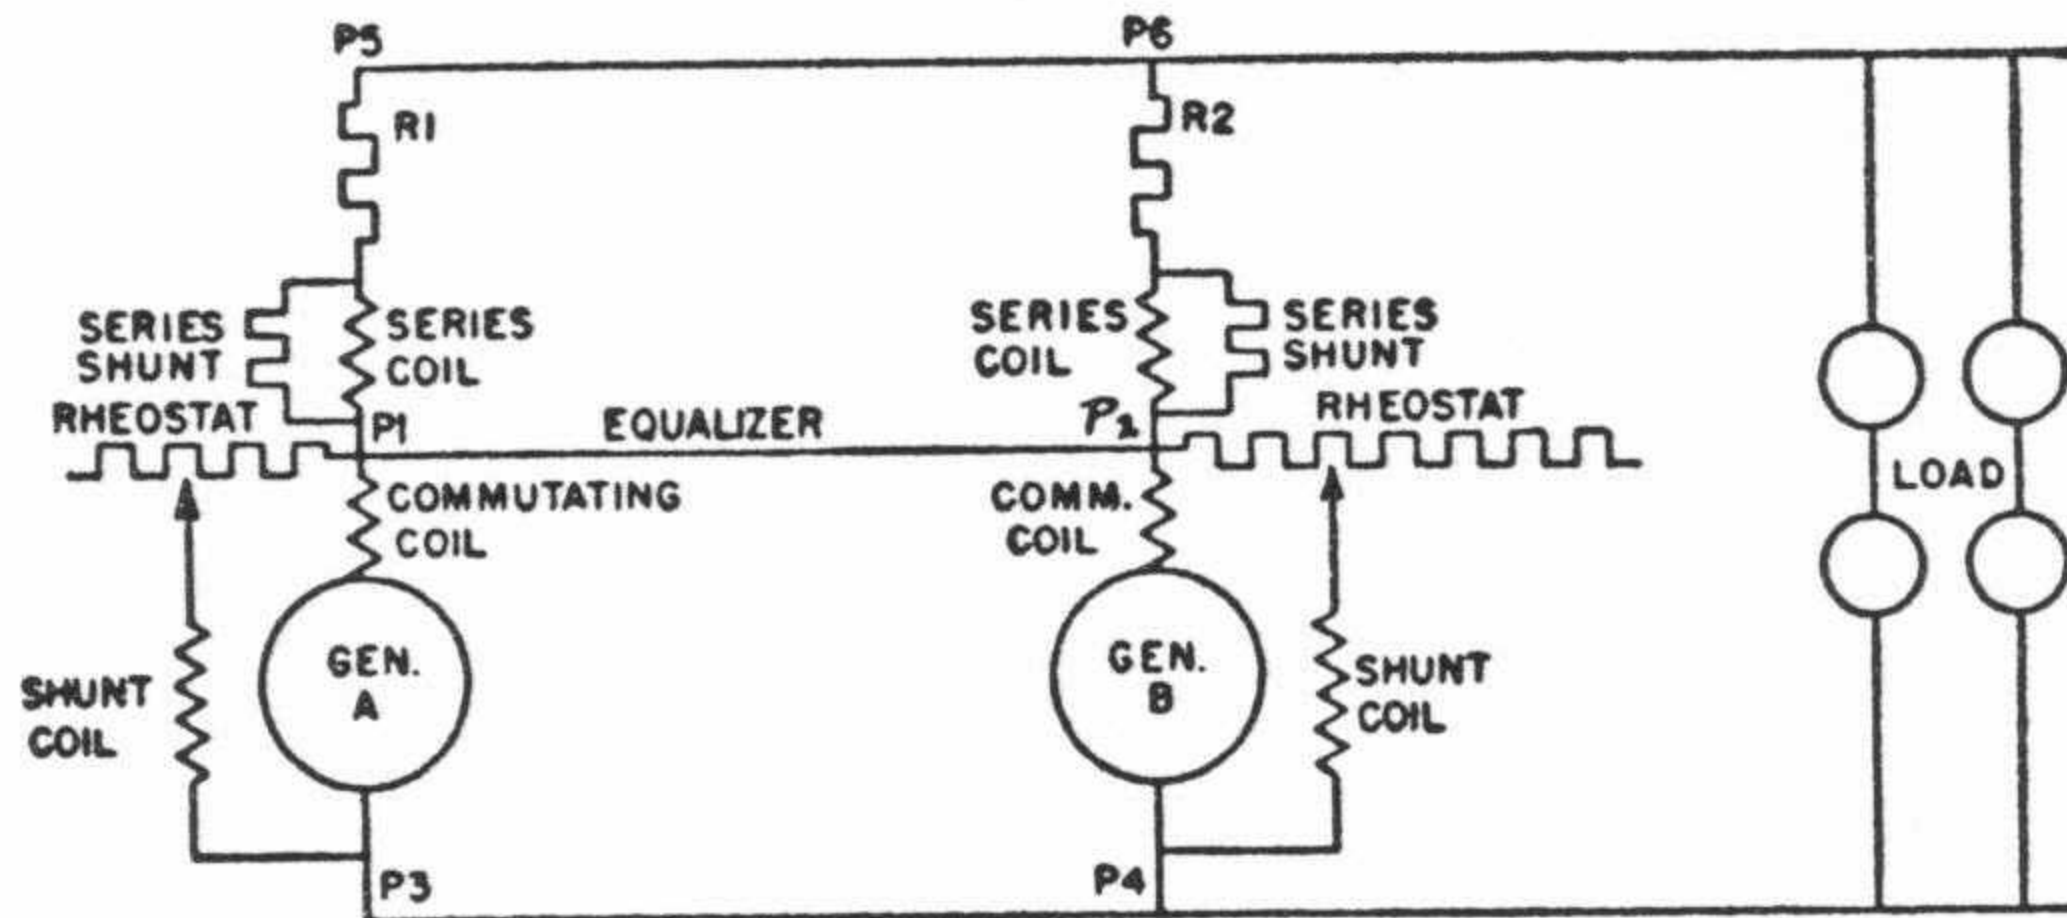

Fig. 3—Connections for Compound Generators in Parallel—Generators Close Together
Fig. 3 shows two compound generators connected in parallel in the usual manner. The generators are assumed to be close together, with the equalizer and buses so short that their resistances are negligible. The equalizer is used to keep points P1 and P2 at the same potential.
Curve A is for a 50-kw, 250-volt generator, and curve B for a 100-kw, 250-volt generator. The points P3 and P4, P5 and P6 in Fig. 3 are the points of paralleling, the equalizer connection being open and the curves taken between those points. If a total load of 600 amps is put on the two machines, each may for a short time carry the proper proportion of load, that is, its rated load. However, at some time there will be
- (8) Connect a total load approximately equal to the combined ratings of the generators, leaving all the adjustments just made unchanged, and measure the current flowing between points P1 and P5. Also measure the current between points P2 and P6.
- (9) Adjust a resistance in series with one of the series fields, as R1 or R2 (Fig. 3) but not both, such that the currents will divide between the fields in proportion to the ratings of the machines. In the case of the generators assumed the resistance should be so adjusted that  $\frac{1}{3}$  of the total current flows between P1 and P5, and  $\frac{2}{3}$  between P2 and P6.
- (10) Check the division of load between the two generators. It should be good.